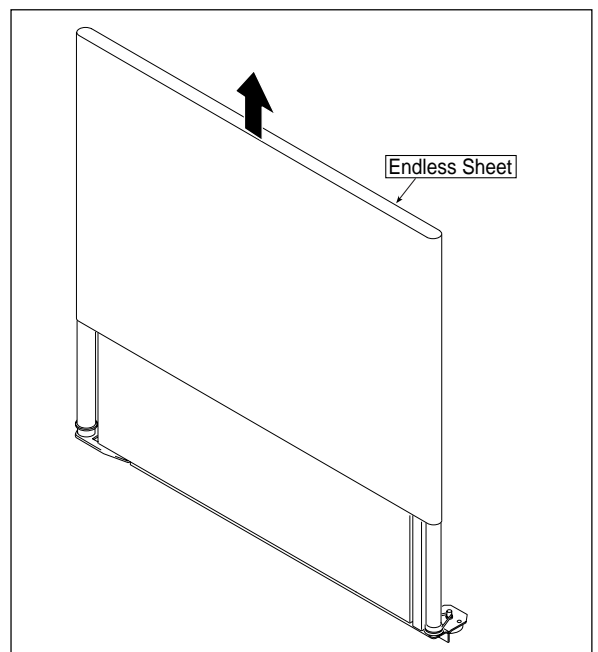

Fig. 19
2. Remove the Endless Sheet as shown in Fig. 19.